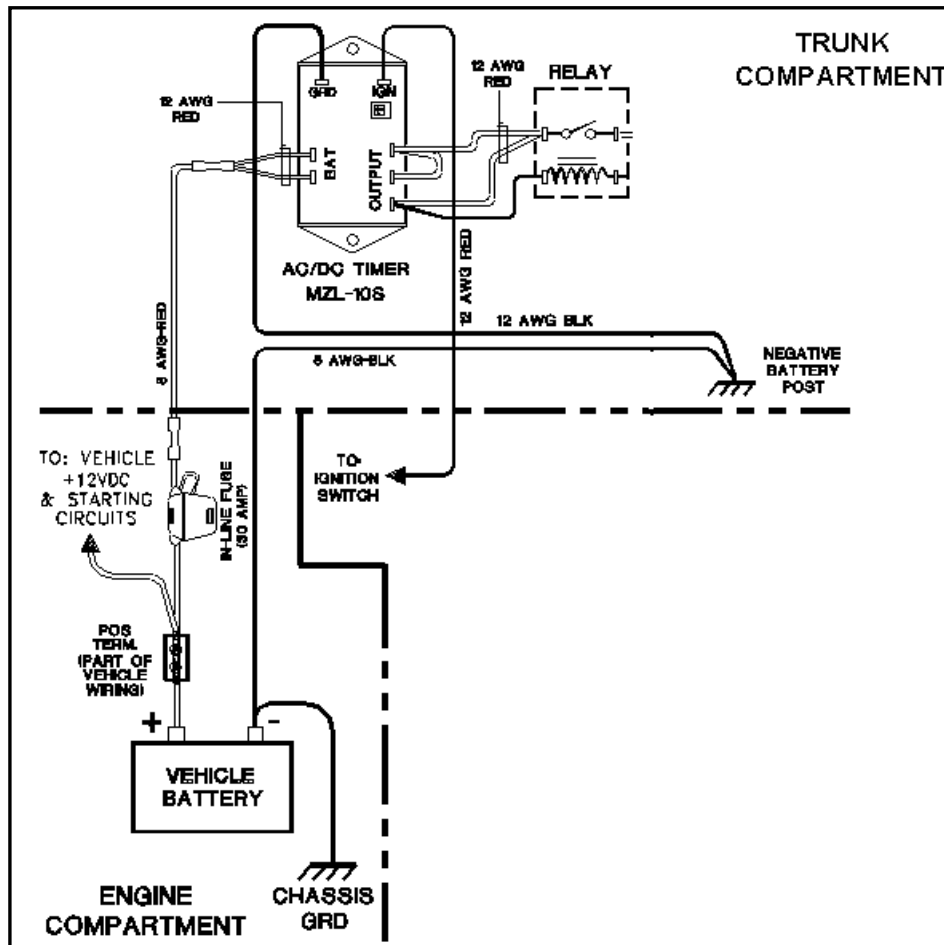

Figure 13: Delay Timer Installation
Step 2 Route the black wire (#12 AWG) from ground connection on the Delay Timer to the vehicle chassis (see Figure 13).
- Step 4** Route a red wire (#12 AWG) from the ignition connection on the Delay Timer to the ignition switch in the driver compartment (see Figure 13). The ignition wire should be fused with 2A fuse.
- Step 7** Route and wire a red (#12 AWG) wire from the last output connection on the Delay Timer to the Automotive Power Relay coil at the position shown in Figure 13.